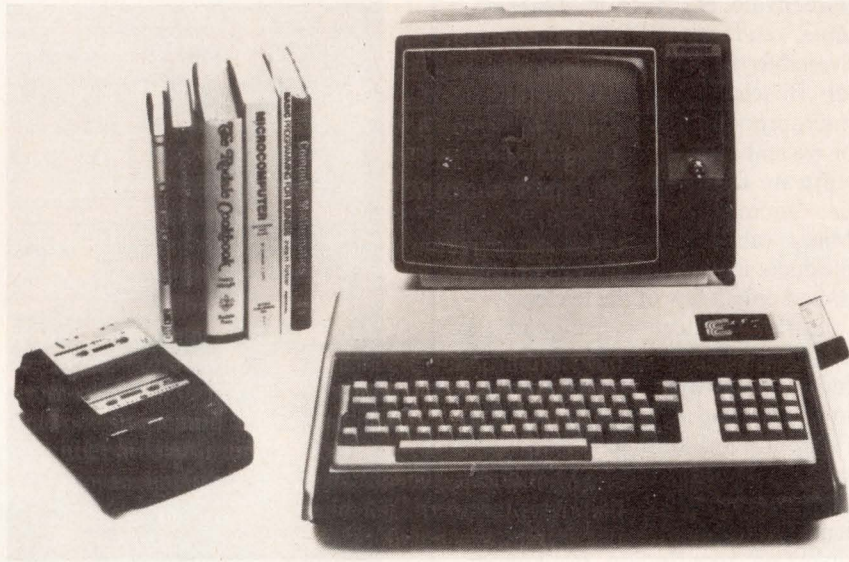

Fig 5 The exidy Sorcerer computer with a ROM-PACK plugged into the side. (Courtesy of Exidy, Data Products Div., Sunnyvale, CA)
- In what medium is the program available? Clearly, the medium must be compatible with your system. For example, an Exidy Rom-Pack (Fig 4) will fit right into a Sorcerer computer (Fig 5), though it would be useless with any other machine. A program that is only available on a medium that your system cannot use or that is not compatible will result in endless headaches. Few conversion programs exist and finding suitable hardware for conversion is a difficult problem. Be especially careful of cassettes (Fig 6) and floppy disks (Fig 7); both